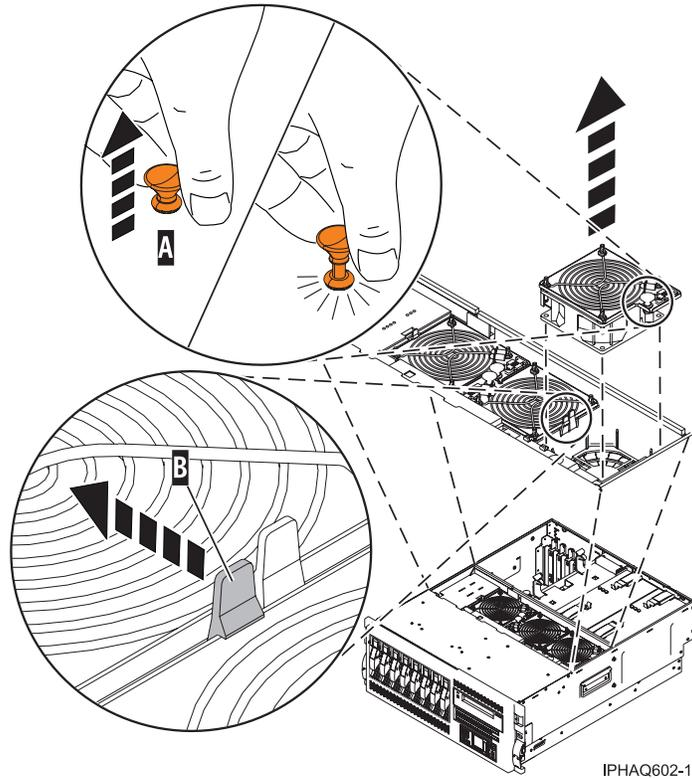
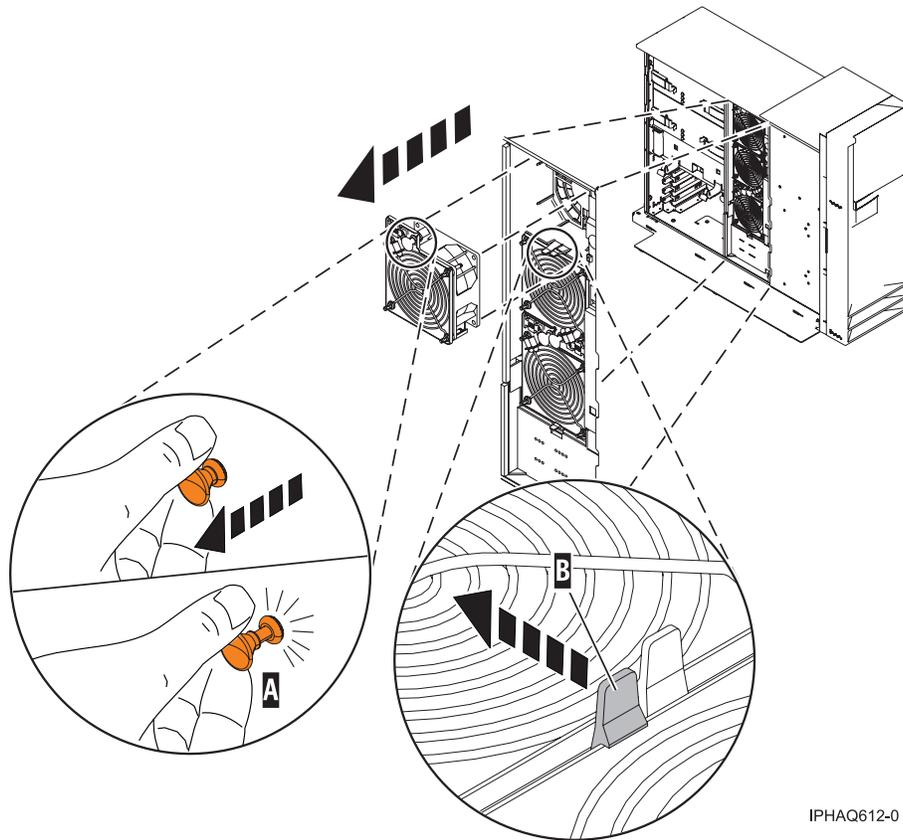

Figure 22. Removing the model 52x system unit fan in a rack-mounted system
Figure 23. Removing the model 52x or, IntelliStation POWER 285 system unit fan unit in a stand-alone system
5. As shown in Figure 22 on page 22 and Figure 23 on page 23, pull on the locking knob A of the failing fan until you feel it unlock.